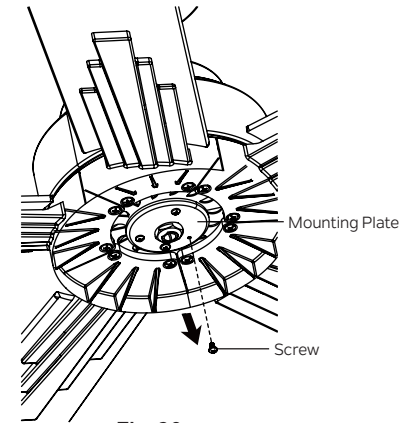

Fig. 20
Step 1. Remove the screw marked with a brown dot label which on the mounting plate and keep for later use. Loosen the other two (do not remove). (Fig.20)